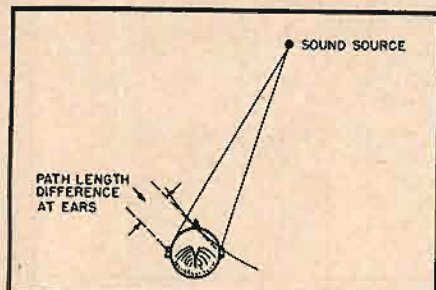

Fig. 1. Difference in path length and time of arrival when sound source is not in median plane.
1. Referring to *Fig. 1* it will be seen that a sound from a source on the right side will strike the right ear before the left ear, the time difference being a maximum when the source is on one side and in line with the two ears. In this position the time difference is .00063 sec corresponding to an ear separation of 21 cm.